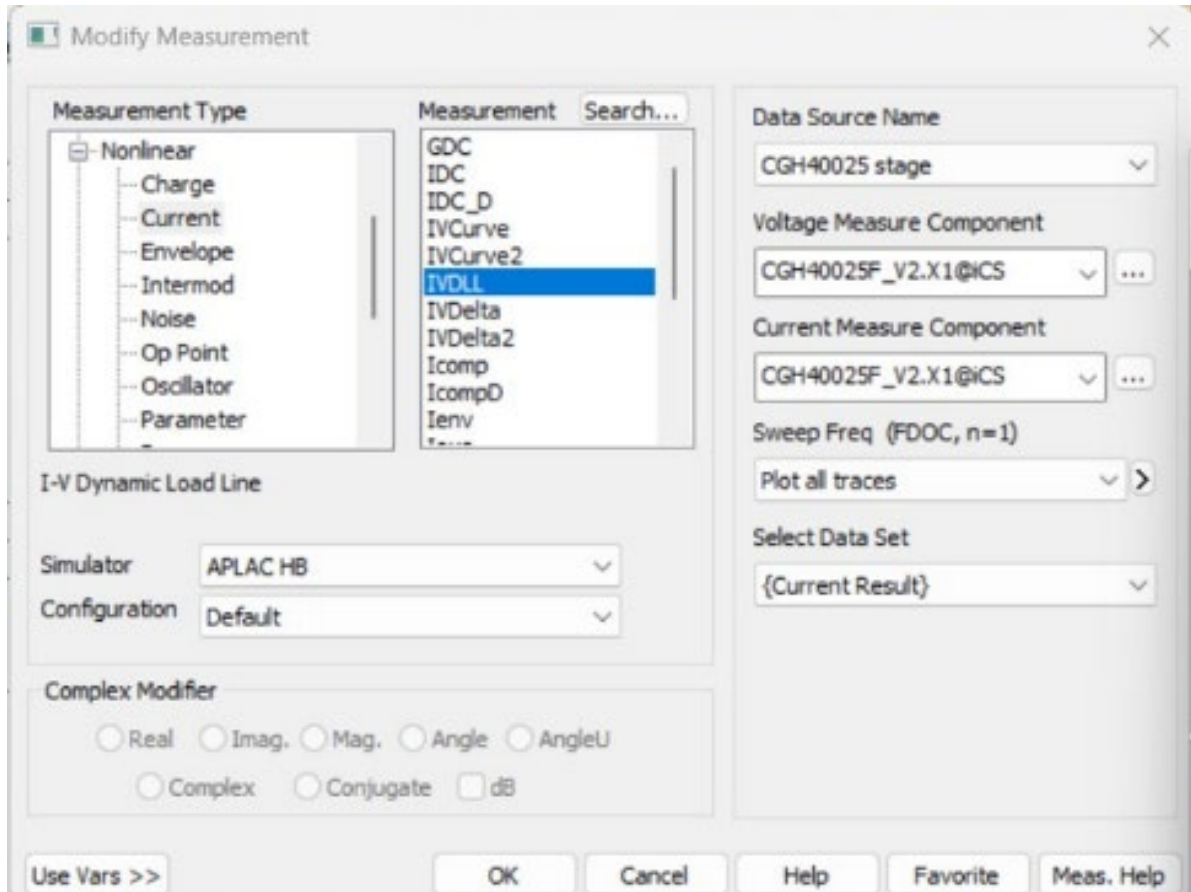

Figure 5
5. Add the second simulated measurement to plot the fundamental frequency load-line over the IV curves starting as per Figure 5.